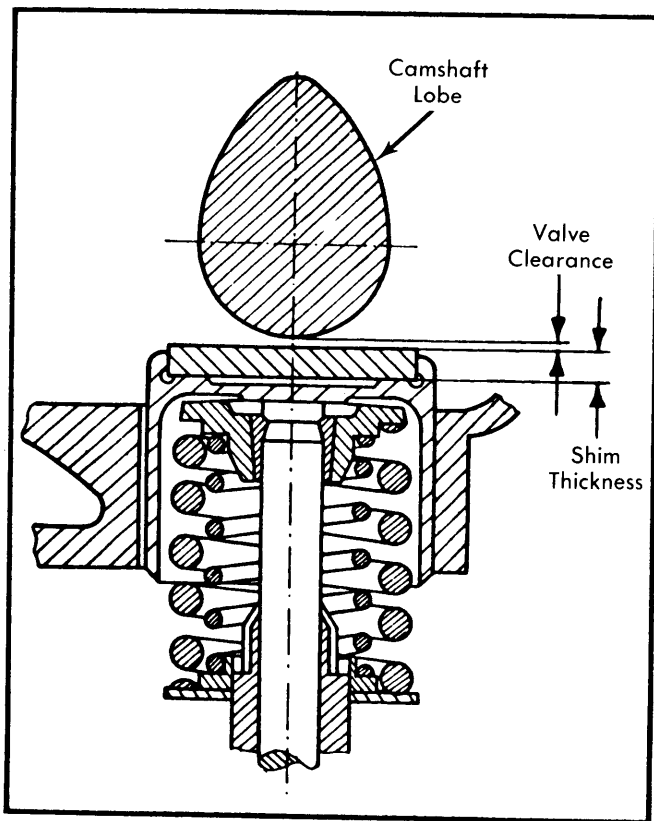

Fig. 3 Measuring Valve Clearance
2) Check valve clearance in order of firing sequence (1-3-4-2). Using a spanner wrench (88011321), turn crankshaft so that cylinder to be checked is in the expansion stroke (cam lobe pointing vertically for that cylinder). See Fig. 3.